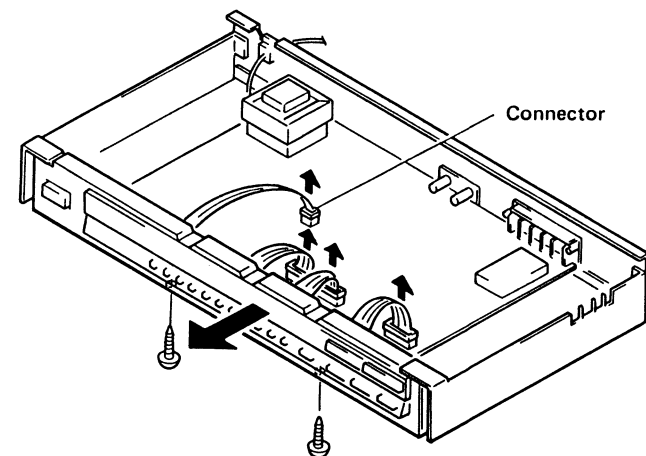

Fig. 8
3. How to remove the Inner Panel (Fig. 8)